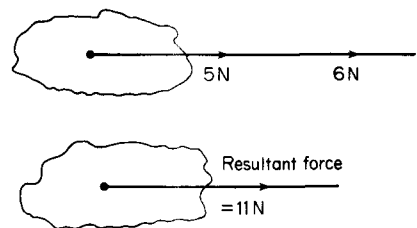

Fig. 2.13 A single force of  $11 \text{ N}$  has precisely the same effect as the two forces of  $5 \text{ N}$  and  $6 \text{ N}$
- (1) The magnitude is represented by a length of  $30 \text{ cm}$ .
- (2) The arrow represents the sense.
- (3) The angle at which the line is inclined represents the direction.
**Resultant force.** In Fig. 2.13, two forces, one of  $5 \text{ N}$  and the other of  $6 \text{ N}$  act on a body. Both the forces have the same point of application. A single force of  $5 \text{ N} + 6 \text{ N} = 11 \text{ N}$  acting to the right and having the same point of application would have precisely the same effect as the two forces of  $5 \text{ N}$  and  $6 \text{ N}$ . This single force of  $11 \text{ N}$  is called the **resultant force**.